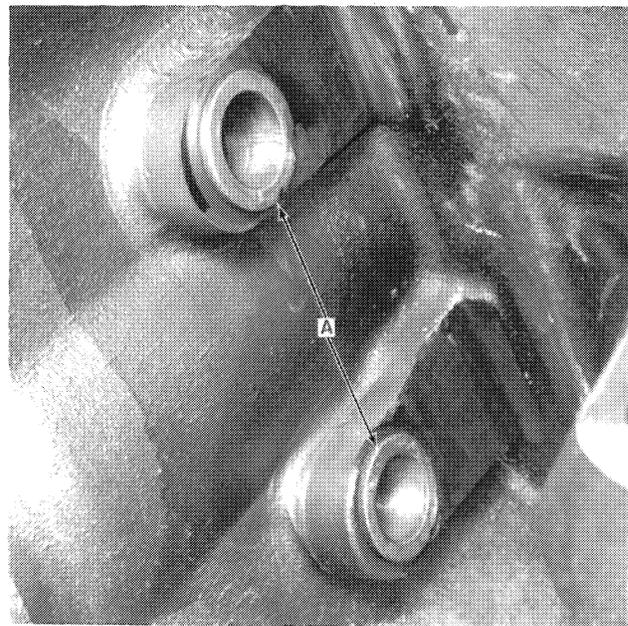

FIGURE 22
2. Should replacement of the feed roll bushings at A, Figure 22, be necessary, again make sure you use a bushing drive tool, and replace any shims that were located behind the old bushings. After installing new bushings at A, Figure 22, they should be reamed, full length, to obtain a .876" to .878" internal diameter.